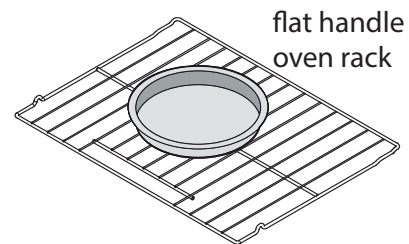
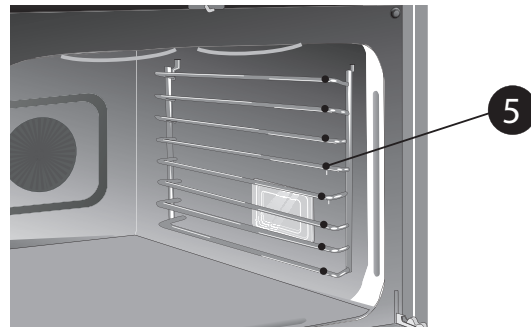

Figure 14: Single rack baking for convenience foods
Figure 15: Oven rack position (5) best for cooking convenience foods
- Always place food in center of the oven on rack position 5 (Figure 15). Place the food as shown in Figure 14.